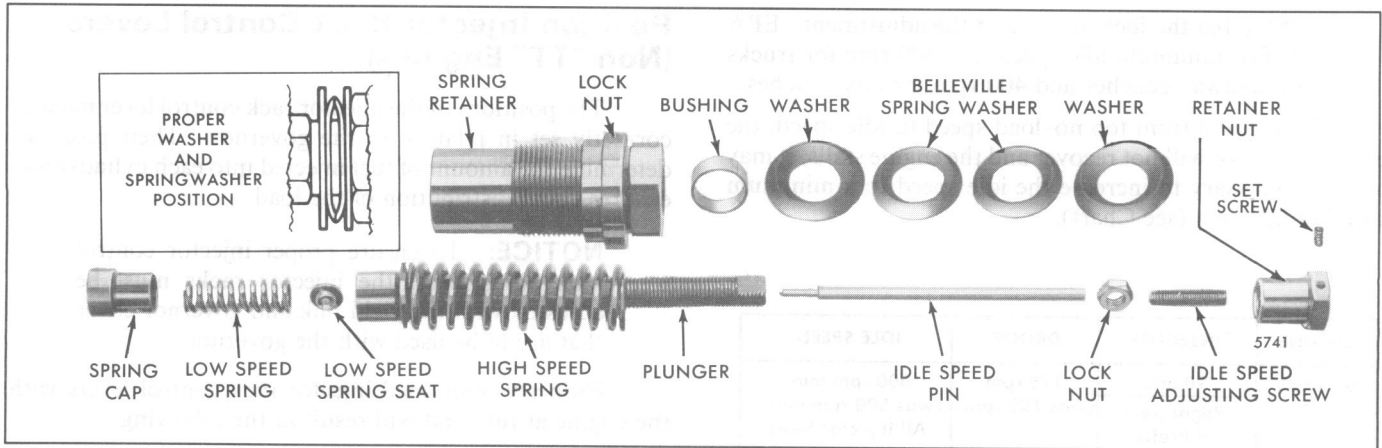

Fig. 5 - High and Low-Speed Springs and Plunger Details Including Belleville Washers (TTA-Fuel Squeezer Engines)
6. While holding the wedge in the bottom position, use a feeler gauge to measure the gap between the low speed spring cap and the high speed spring plunger (see Figs. 5 and 6). The gap should measure .003" - .019". Reset the gap to .008" if the measured gap is out of limits (see "GOVERNOR GAP ADJUSTMENT PROCEDURE" below).
Before adjusting the gap on "TT" governors, the Belleville spring retainer nut must be backed out until there is approximately .060" clearance between the washers and the retainer nut (see Fig. 5).
7. With the wedge in the bottom position, use a feeler gauge to set the gap between the low speed spring cap and the high speed spring plunger at .008". Then tighten the governor gap adjusting screw lock nut (see Figs. 5 and 6).
1. Position the idle screw. On all non-“TT” governors with a normal 1.00" long idle adjustment screw, the screw should be set so that it extends .325". On all “TT” governors with a normal 1.00" long idle adjustment screw, the screw should be set to extend .400". This dimension is measured from the face of the idle speed adjusting screw lock nut to the end of the idle speed adjusting screw with a tolerance of $\pm .015$ " (see Fig. 5). For governors with a variable high-speed option, which use a 1.75" long idle adjustment screw, the screw should be set to extend 1.075" on all non-“TT” governors or 1.150" on all “TT” governors. These idle screw projections result in a nominal 600 RPM idle speed.
6. With the wedge in the bottom position, use a feeler gauge between the low speed spring cap and the high speed spring plunger to set the gap at .008". Then tighten the governor gap adjusting screw lock nut (see Figs. 5 and 6).